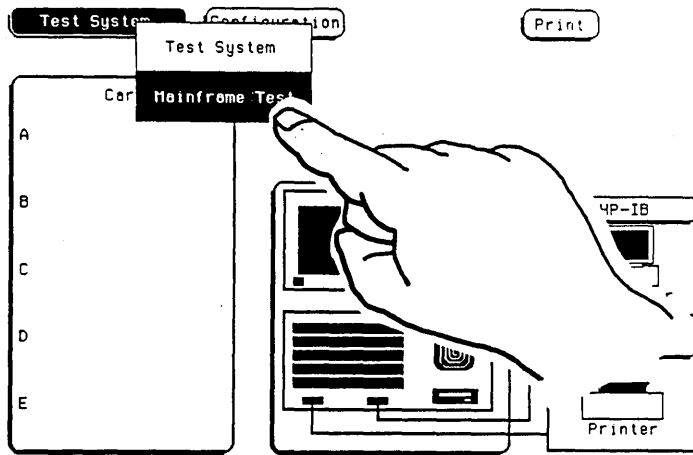

Figure 4-5. Selecting Mainframe Test menu
5. Touch the **Test System** field and select **Mainframe Test** from pop-up menu (see figure 4-5).